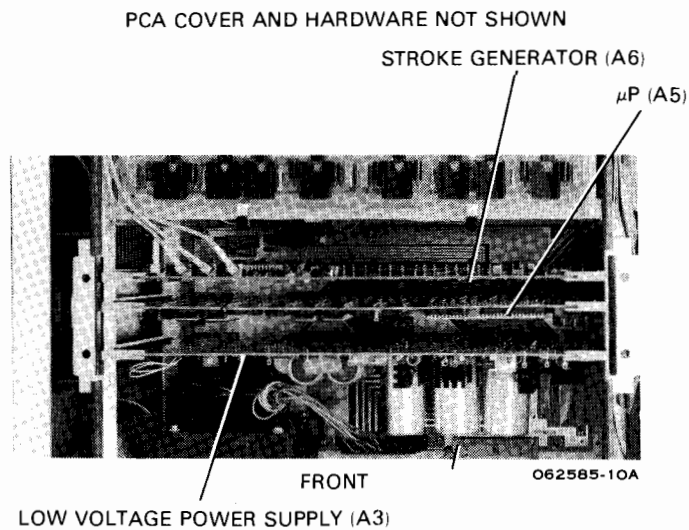

Figure 4-4. Low Voltage Power Supply, μ P, and Stroke Generator PCA Removal
- d. Reverse above procedure when reinstalling the boards. Ensure that the boards align with the PCA guides in the frame. Refer to figure 4-4.